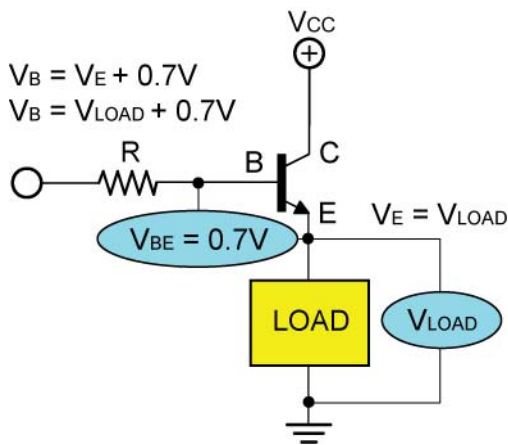
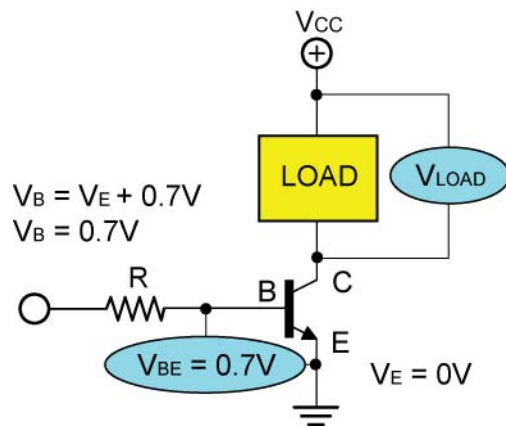

Figure 26: NPN Transistor as a Source
Figure 27: NPN Transistor as a Sink
- NPN as a Source: When an NPN transistor is acting as a source, the load is placed between the emitter and ground (Figure 26). The problem with the load being placed between the emitter and ground is that current flows through load which creates a voltage drop across the load (V_{LOAD}). This raises the voltage at the emitter ($V_E = V_{LOAD}$) which causes the base voltage to rise to $V_{LOAD} + 0.7V$. To drive an NPN transistor as a source, the base voltage must be higher than if the NPN transistor is acting as a sink (Figure 27).